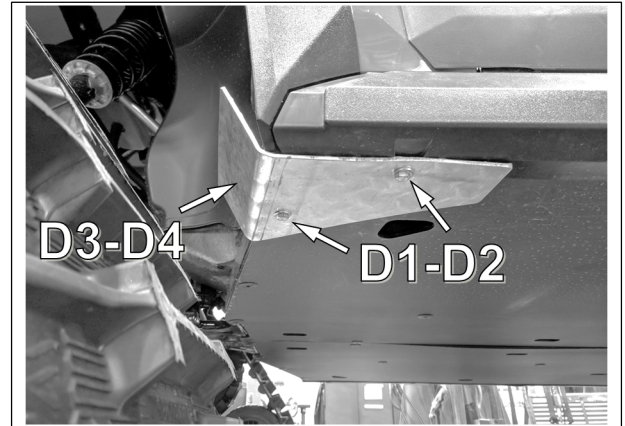

Fig. 25
1. Remove the Skid Plate mounting screws that are located under the front corners of the vehicle's cab and install the footrest protectors (D3-D4) using the provided bolts (D1) and washers (D2). See Fig. 25